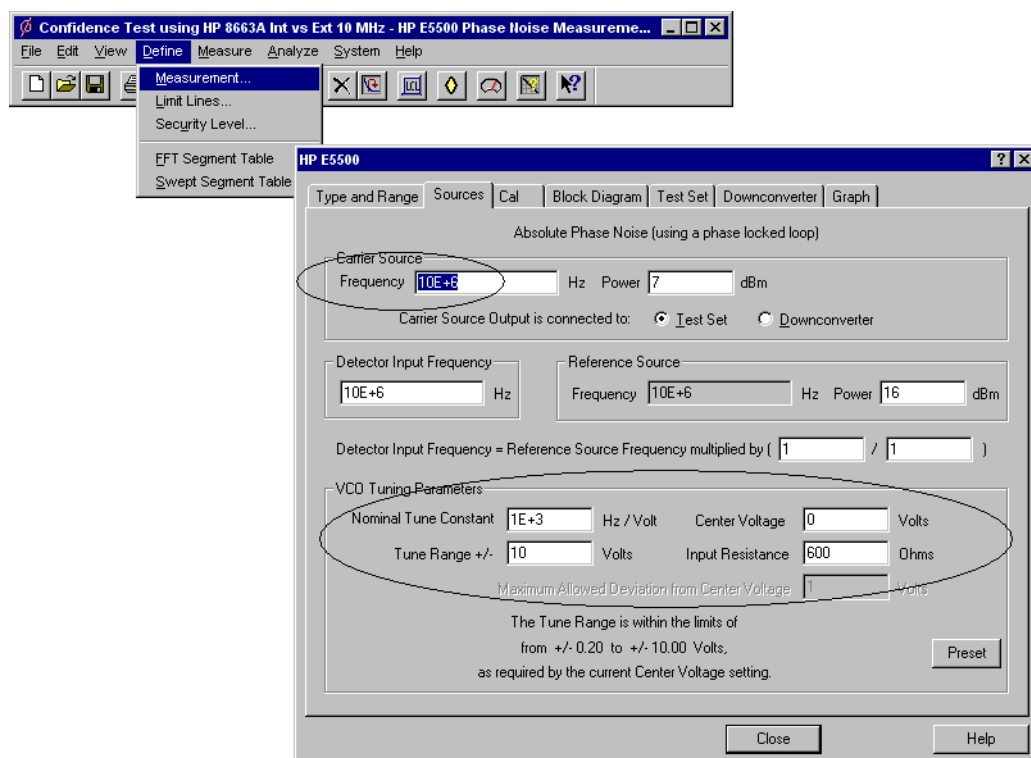

Figure 7-46 Enter Source Information
- 5 Using Figure 7-46 as a guide, navigate to the **Sources** tab.